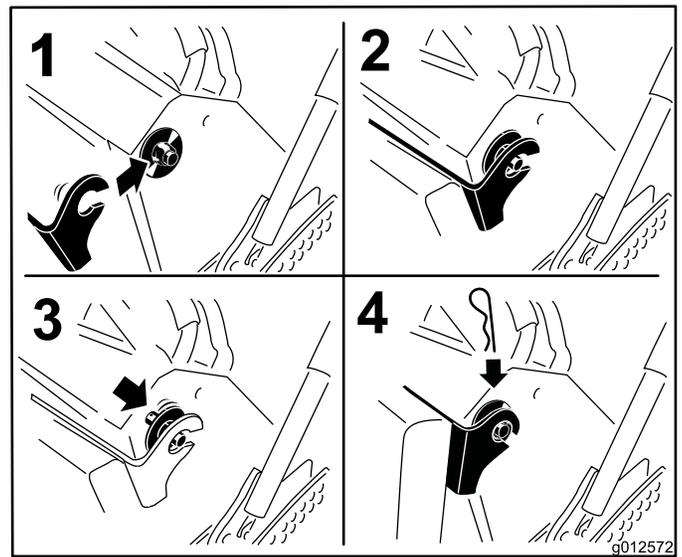

Figure 36
6. Raise the cushion and slide it onto the pins on both sides of the machine (Figure 36).
7. Slide the large washers with plastic bushings into the cushion bracket and secure them with a hairpin cotter pin (Figure 36).